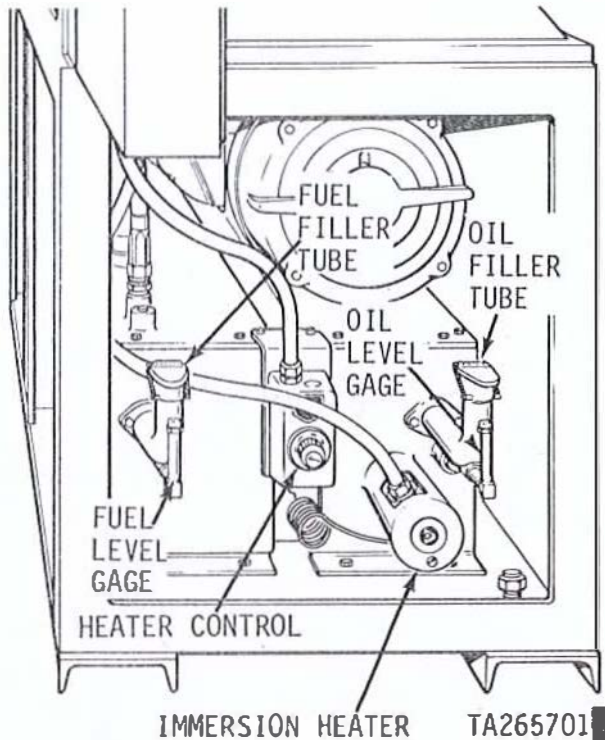
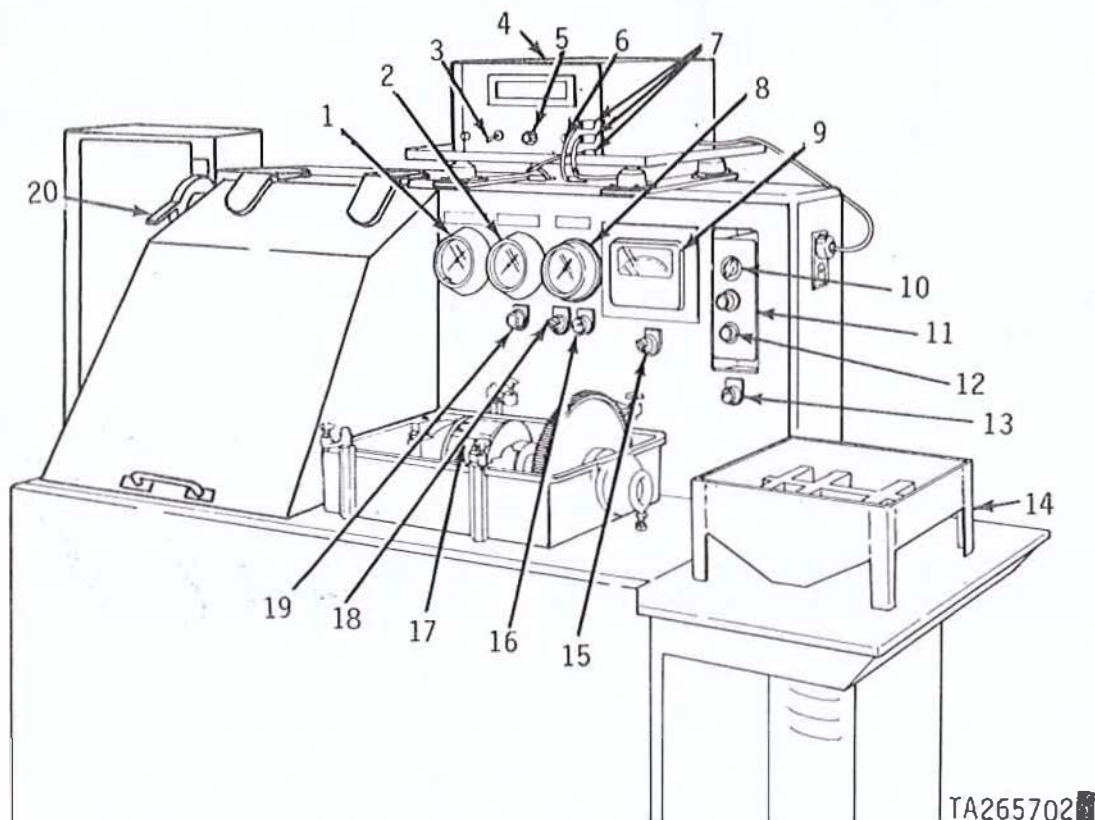

Figure 3-249. Test stand heater control and supply tanks.
Figure 3-250. Test stand and advance assembly with coupling guard and housing cover removed.
(2) Check fuel level and oil level gages (fig. 3-249). Fill supply tank(s) if either gage indicates less than
(3) Check to ensure that the master switch, oil heater switch, jog run (clutch engage) switch, and the motor switch are all in the "OFF" position, and that the speed regulator control is at zero (0).
(4) Turn master switch handle to the "ON" position. The power indicator light should be on. If power indicator light does not light, press the reset buttons. If light does not come on, investigate and correct the deficiency before starting.
(5) Turn oil heater (thermostat) control, figure 3-249, to a setting of 200 degrees and turn oil heater switch, (18, fig. 3-250) "ON". The oil heater indicator lamp should light when the heater switch is turned on, and should go out when the oil reaches the selected oil temperature heater control setting (200 degrees).
## LEGEND for fig. 3-250:
(8.1) Turn motor switch (15, fig. 3-250) "ON".
(9) Push jog run (clutch engage) switch to engage eddy current clutch and turn speed regulator control to obtain advance assembly speed of 300 rpm on tachometer. Turn speed regulator control clockwise to increase rpm.
(10) Observe oil and fuel pressure indicator gages (1 and 2, fig. 3-250). These gages should register more than zero (0); however, maximum pressures will not be evident until a speed of 2000 rpm is obtained.
(15) Turn speed regulator control (10, fig. 3-250) to zero (0), to reduce speed, and counter switch, motor switch, and master switch handle to the "OFF" position.